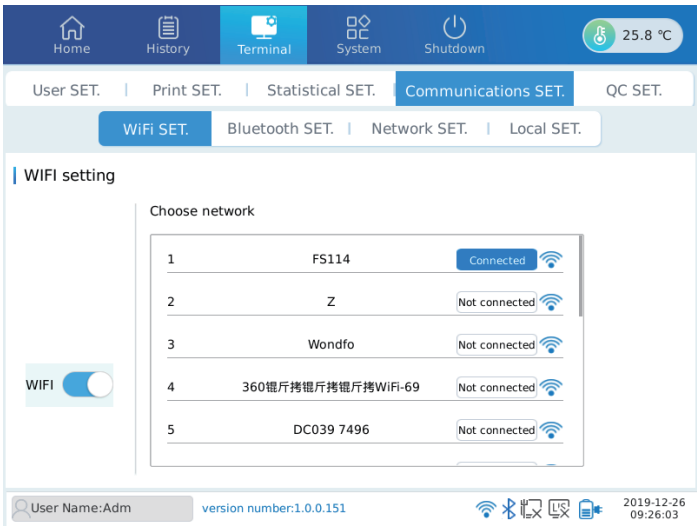

Fig 6.20 WIFI Setting
The user can proceed WIFI setting within the communications setting as Fig. 6.20 below.
- 1) In “WIFI SET.” interface, turn on WIFI  , it will display the choose network refer to Fig 6.20.